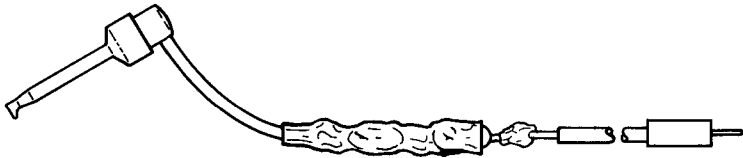

Fig. B-6. Assembly, step 3.
3. Slide heat shrink tubing over diode and resistor, leaving one lead of resistor exposed, and then shrink the tubing. See Fig. B-6.